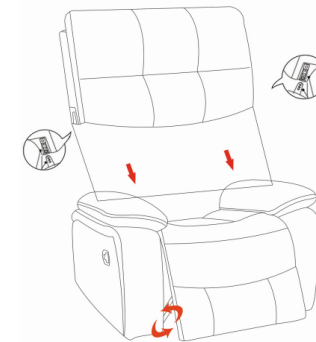

fig.2
1. Carefully align connecting hooks & holes into position and lock them to secure the mechanism. See fig.2
3. Engage the Metal Locks and push fit. You should hear them lock into position See fig. 2
4. Paste the velcro on the flag of the Back Cushions onto the back of Seat Cushions. See fig. 2
5. Insert the armrest pieces into the armrest, See fig. 2